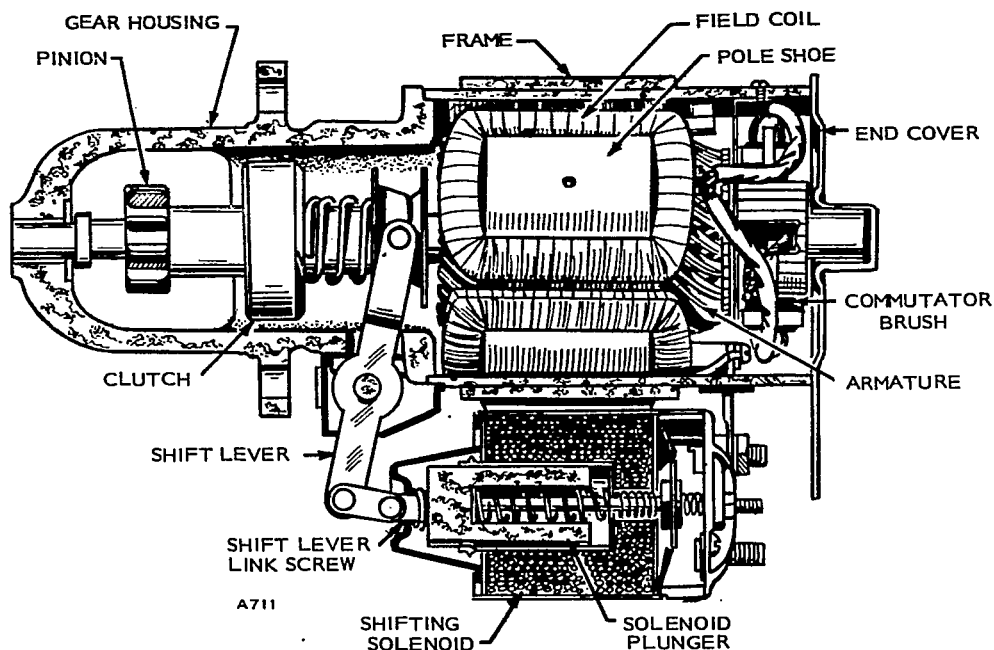

FIGURE 34. STARTING MOTOR
1. Remove connections to controls and battery at shifting solenoid. See Figure 34.